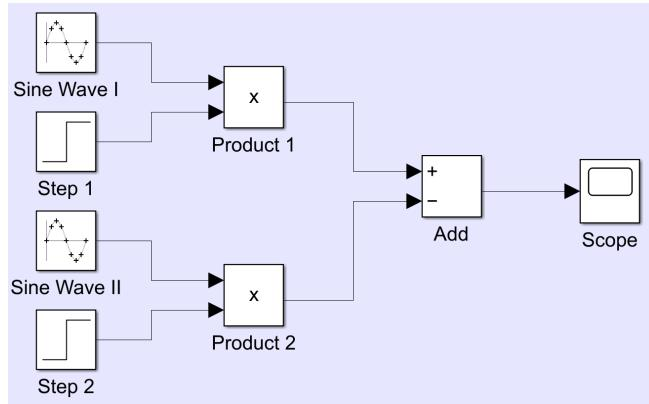
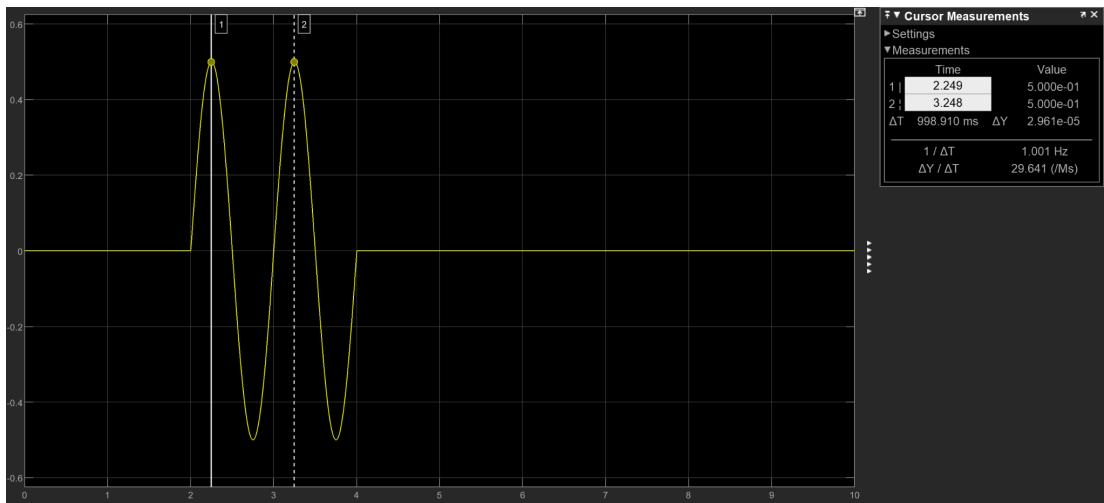

**Fig. 9: Output of the sum of three sine-wave on the Scope**
**Fig. 10: Output of the sum of three sine-wave on the Spectrum**
- 5) We then repeated this step, but this time with a sum of three ample based sine waves, and each has the sample time set to 1e-4. The first sine wave is set up with an amplitude of 0.5 and samples per period of 500; the second one is set up with an amplitude of 2 and samples per period of 1000; the third one is set up with an amplitude of 1.5 and samples per period of 100. We observed the outputs on the Scope and the Spectrum (Fig. 9 and Fig. 10)